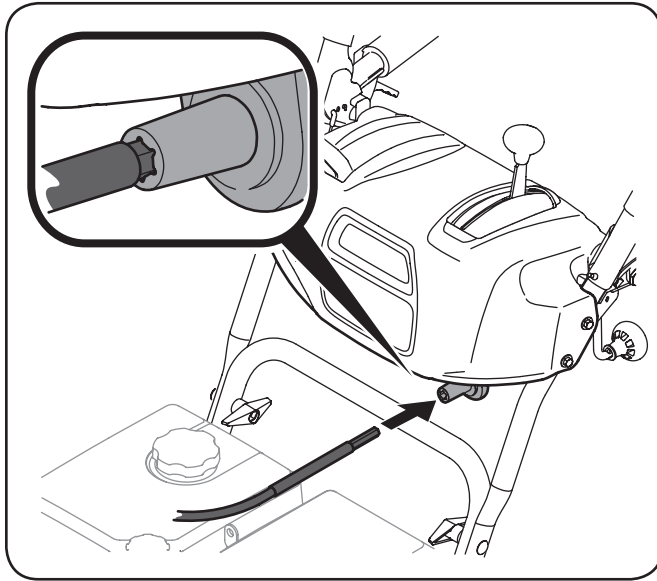

**Figure 3-8**
6. Insert the flex shaft into the chute control rod coupling under the dash panel. See Figure 3-8.